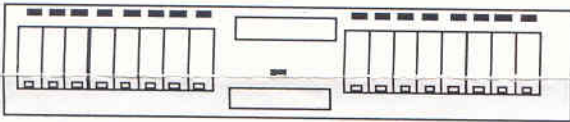

Figure 20 - Cut the 1/2MB links shown in black (Don't forget the one in the middle!)
- (1) You do not need to touch the MMU or Video Shifter adators.
- (2) Remove the top of your ST as described on pages 6 to 8.
- (3) Cut all of the wire links on the XTRA-RAM RAM board shown in figure 20. Do not forget the link in the middle of the board between the two connectors.